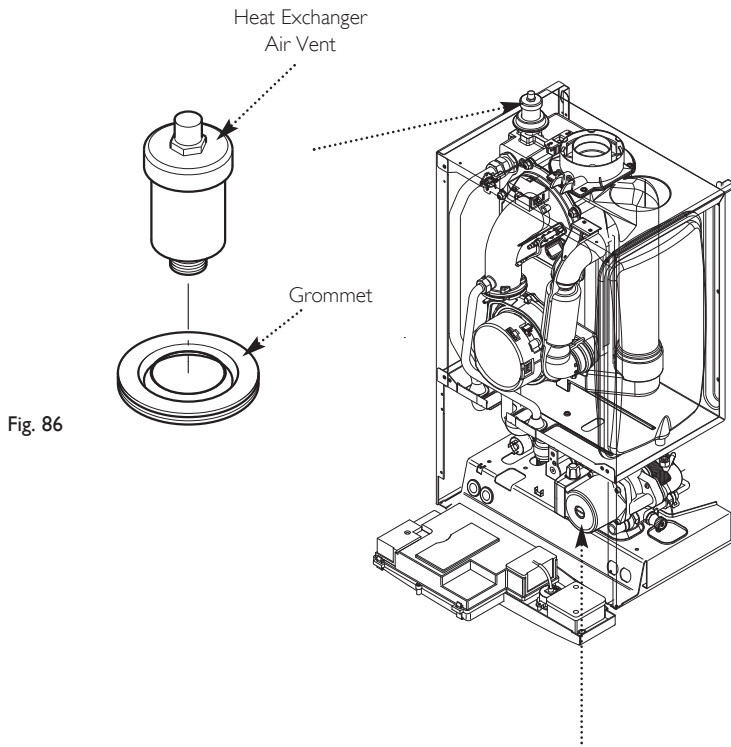

Fig. 86
14.11 Heat Exchanger Automatic Air Vent (Fig. 86)